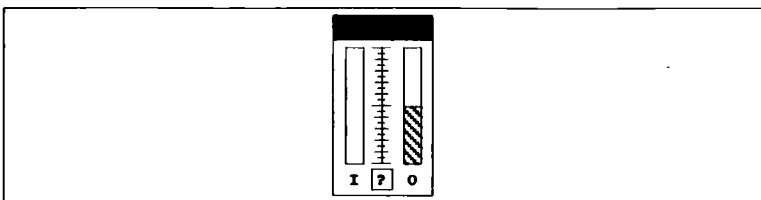

Figure 4.5 *ANMAN\_ST Faceplate Symbol*
- **ANMAN\_ST** lets you create an Analogue Manual Station block faceplate symbol, illustrated in Figure 4.5.